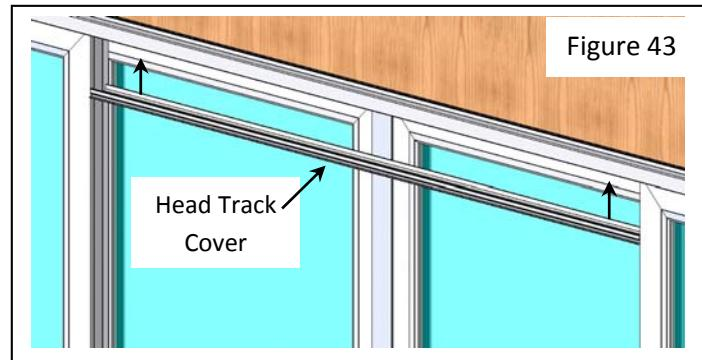

Figure 43
31) Snap the head track cover into the exterior track in the head, between the fixed panels as shown (Fig. 43).